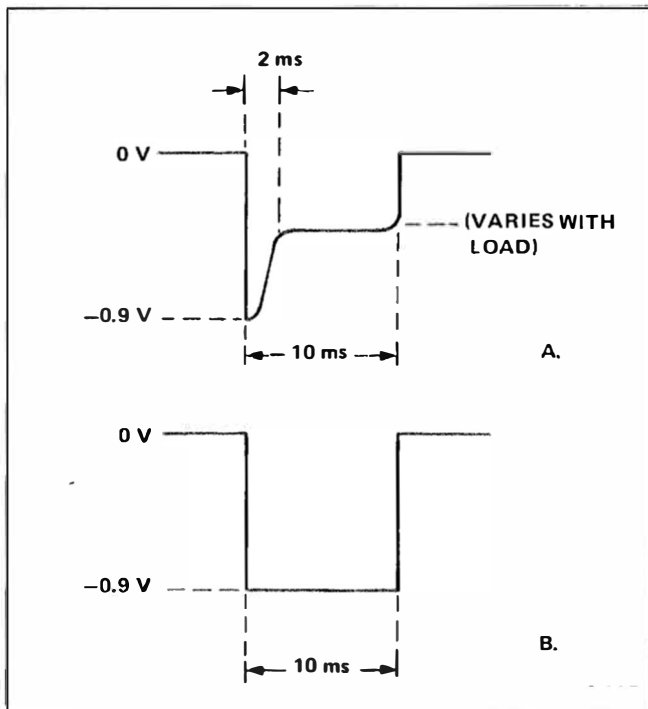

Fig. 4-4. Current sensing waveform at R1287 showing: (A) Power supplies not in current limit operation. (B) Power supplies in current limit operation.
3. Compare the waveform on the test oscilloscope to those shown in Figure 4-4. If the waveform resembles that of Figure 4-4A, proceed to Step E of this procedure. If it resembles that of Figure 4-4B, proceed with part 4 of this step.